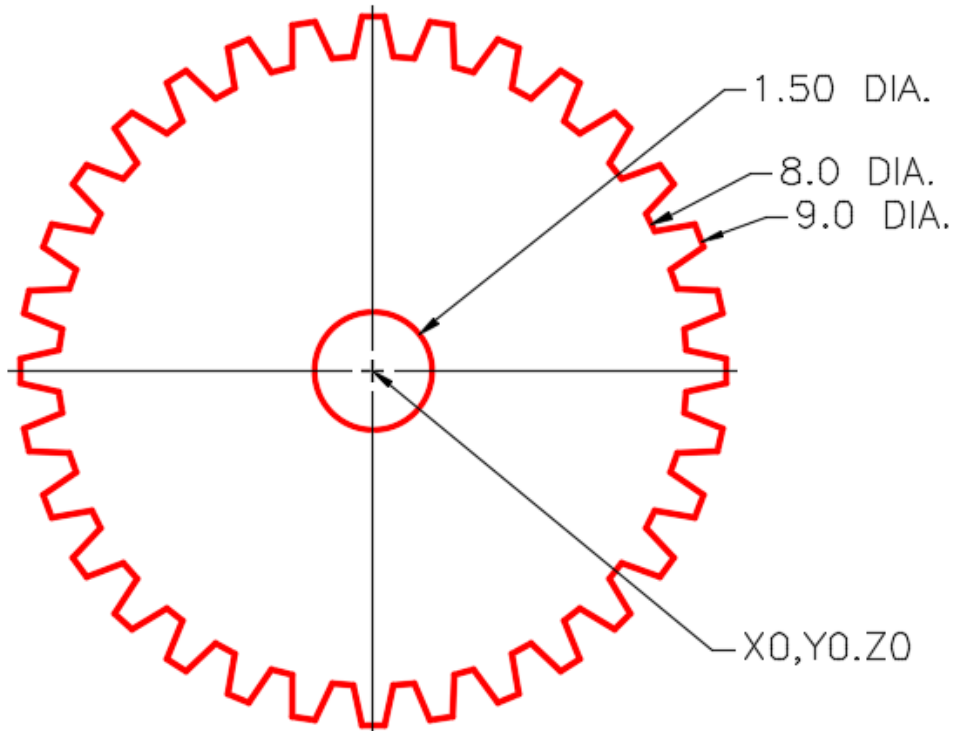

Figure Step 3A
Step 3 Draw all model objects on layer: Model and all construction objects on layer: Construction. (Figure Step 3A, 3B, and 3C)